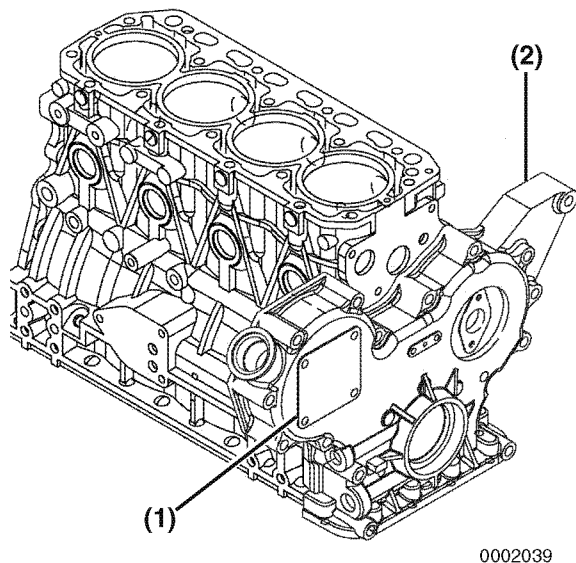

Figure 7-13
15. Remove the fuel injection pump drive gear cover (**Figure 7-13, (1)**) from the gear case cover (**Figure 7-13, (2)**).